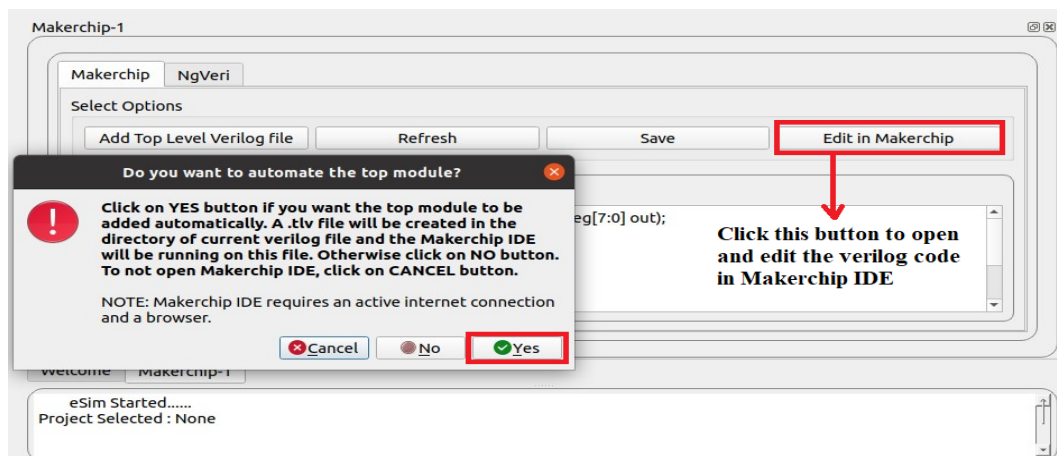
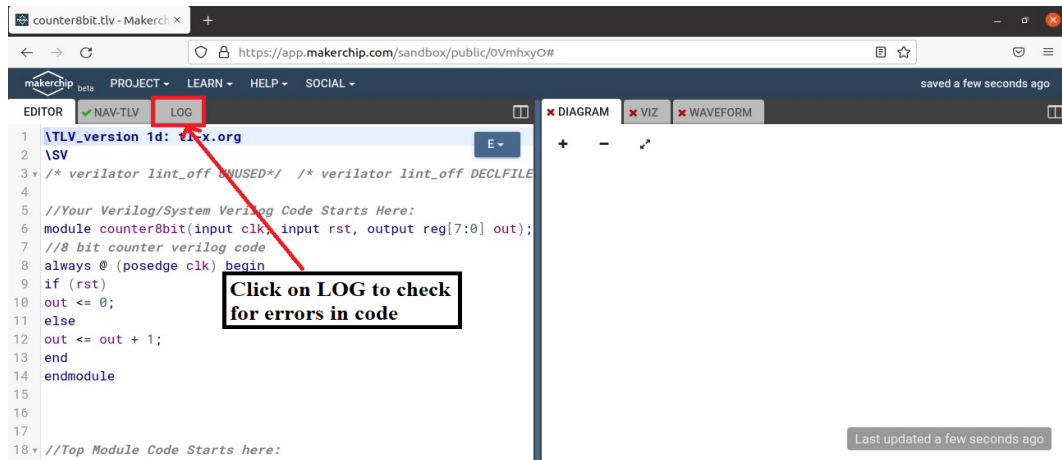
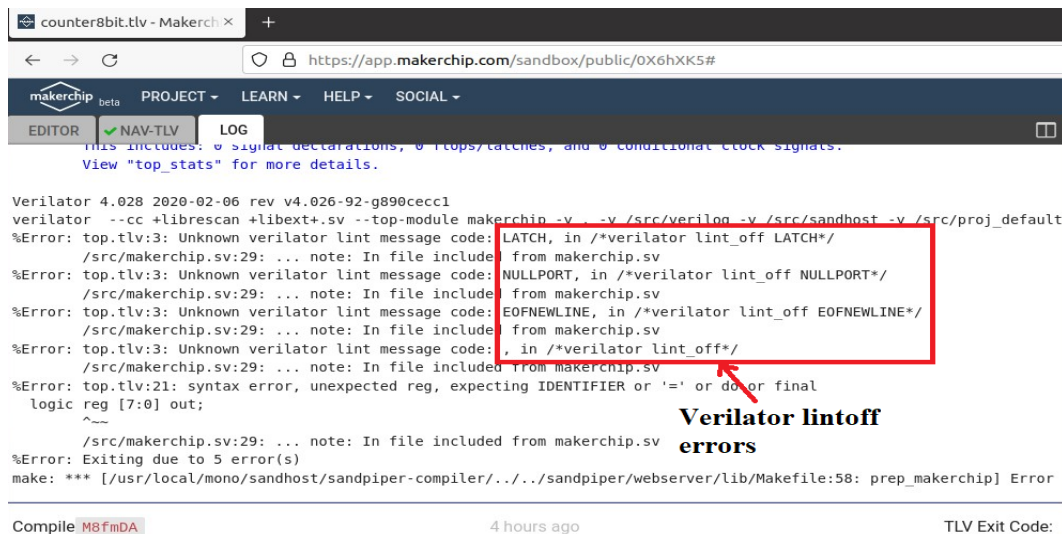
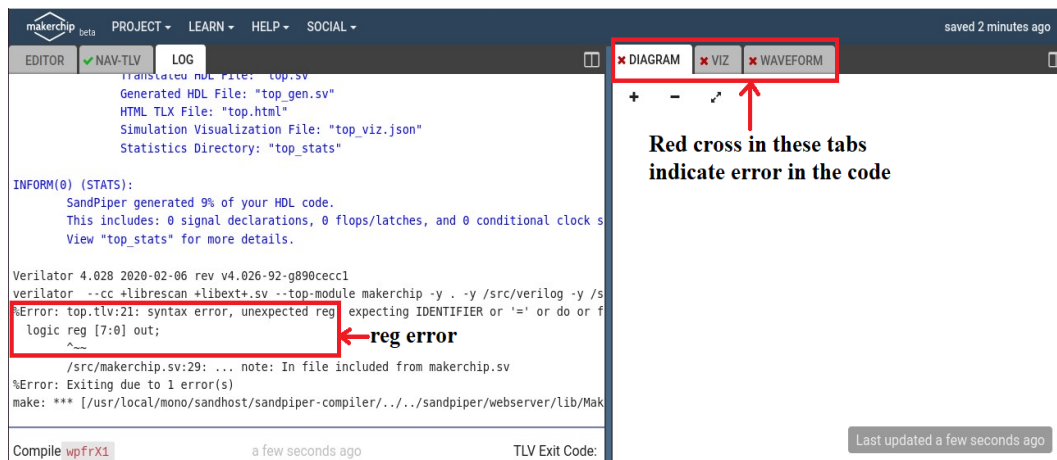

Figure 11.12: Opening Makerchip IDE
Figure 11.13: Makerchip IDE interface
Figure 11.14: Verilator lintoff errors
Figure 11.17: Unexpected reg error in the code
10. Now click on **Edit in Makerchip** button to open and edit the verilog code in Makerchip IDE. A pop-up window will appear as shown in Fig. 11.12. By clicking on **Yes**, a top level verilog file i.e .tlv file will be created in the same directory of current verilog file and the Makerchip IDE will be run in a new web browser as shown in Fig. 11.13. By clicking on **No**, the current raw verilog file i.e .v file will open up in Makerchip IDE web browser.
11. User can check for errors by clicking on **LOG** tab in Makerchip IDE interface as shown in the Fig. 11.13. Following window will appear as shown in Fig. 11.14, where you can check the Verilator lint-off errors.
12. As shown in the Fig. 11.14, verilator lint-off commands which caused error in the Log section needs to be removed from Line 3 in the editor window. Two such commands which needs to be removed are shown in the Fig. 11.15.
14. After compiling, **Unexpected reg error** remains in the Log section (Refer Fig. 11.17) which can be rectified by removing *reg* from top level verilog code as shown in Fig. 11.18. By clicking **Yes** button in Fig. 11.12, a Top Level Verilog (TLV) code automatically gets added in the editor. Refer Fig. 11.18. The value of *rst* value is by default as random value and it can be replaced if user wants to assign values. We have assigned *rst* with *reset* in this counter example.